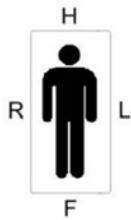

Fig. 5 *Label on Mattress Platform Parts*
- ❖ Install mattress platform parts in directions indicated on label (see Fig. 5).